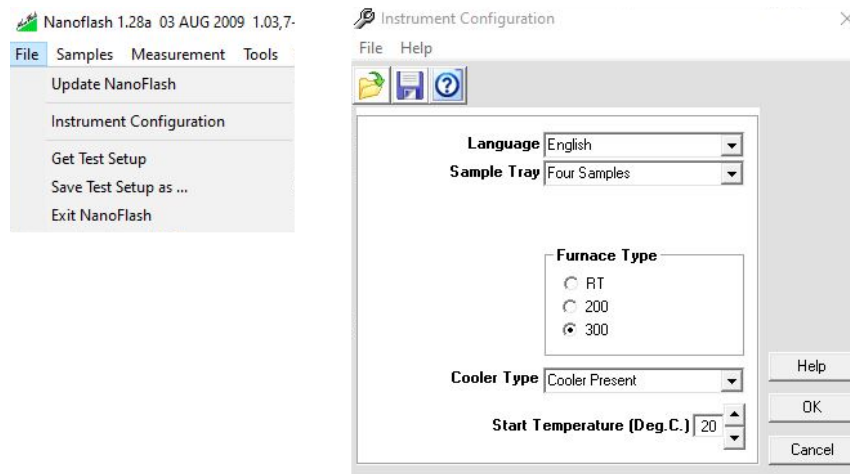

Figure 12. Instrument configuration settings.
6. Select Instrument Configuration from the File tab (as shown in Figure 12, left panel).
- Ensure the instrument is configured properly with the sample tray set to four samples, the furnace type set to 300, cooler type shows cooler present, and the start temperature is set a few degrees below room temperature (usually 20°C) (as shown in Figure 12, right panel).